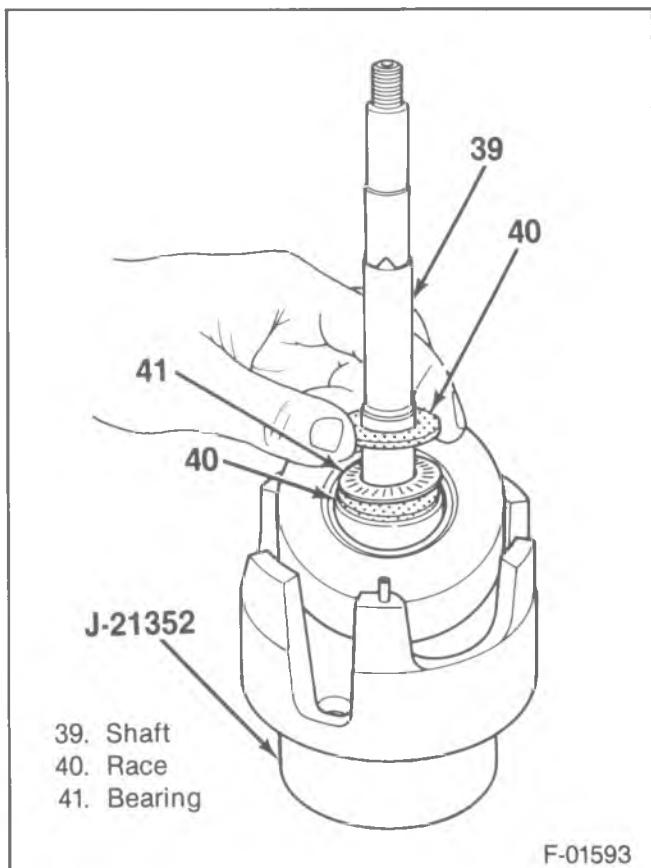

Figure 26—Removing the Front Thrust Races and Bearing
- Rear thrust races (40) and thrust bearing (41) from the shaft (39) (figure 26).
- Shaft (39) from the front cylinder half (29).
- If necessary, bend the discharge cross-over tube (26) to remove the shaft (39).
- Front thrust races (27) and thrust bearing (28).